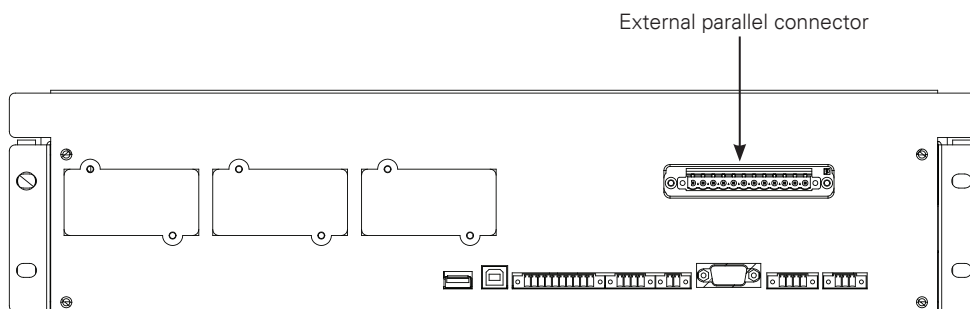

Figure 4-4: Communication Interfaces
2. 12-pin terminal block for external parallel control signals is accessible on the right side of the communication interface, on the top section of the UPS. (See Figure 4-4: Communication interfaces.)